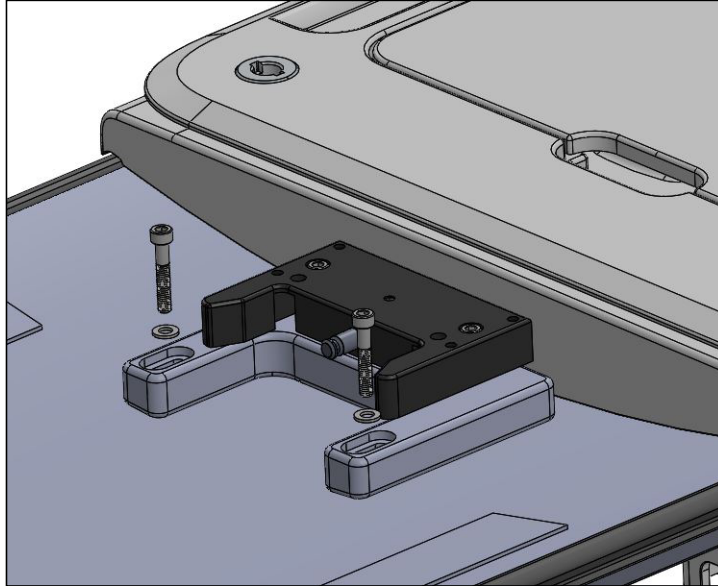

Fig. 28
3. Use M6 washers and M6 x 1.35 mm screws to secure the Foot End Mounting Assembly onto the cradle (Fig. 28).